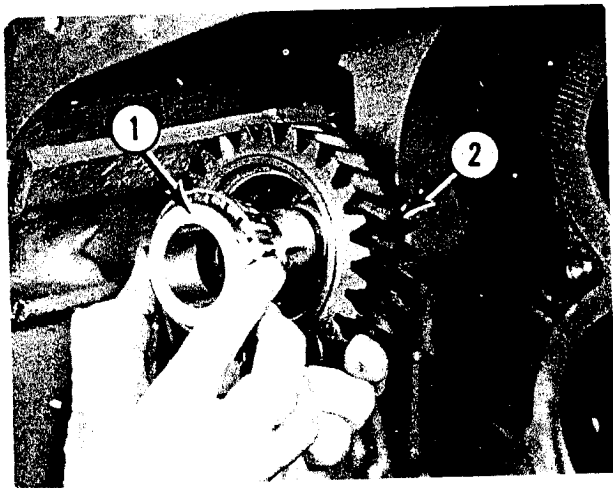

FIGURE 81. REMOVE REVERSE IDLER GEAR
Refer to Figure 81. Remove bearing cone (1) and reverse idler gear (2). Remove idler gear shaft from boss in housing. If necessary to replace bearing cup in idler gear, remove retainer ring and then press bearing cup from gear.
Refer to Figure 81 and reverse the numerical sequence as shown and the following information.